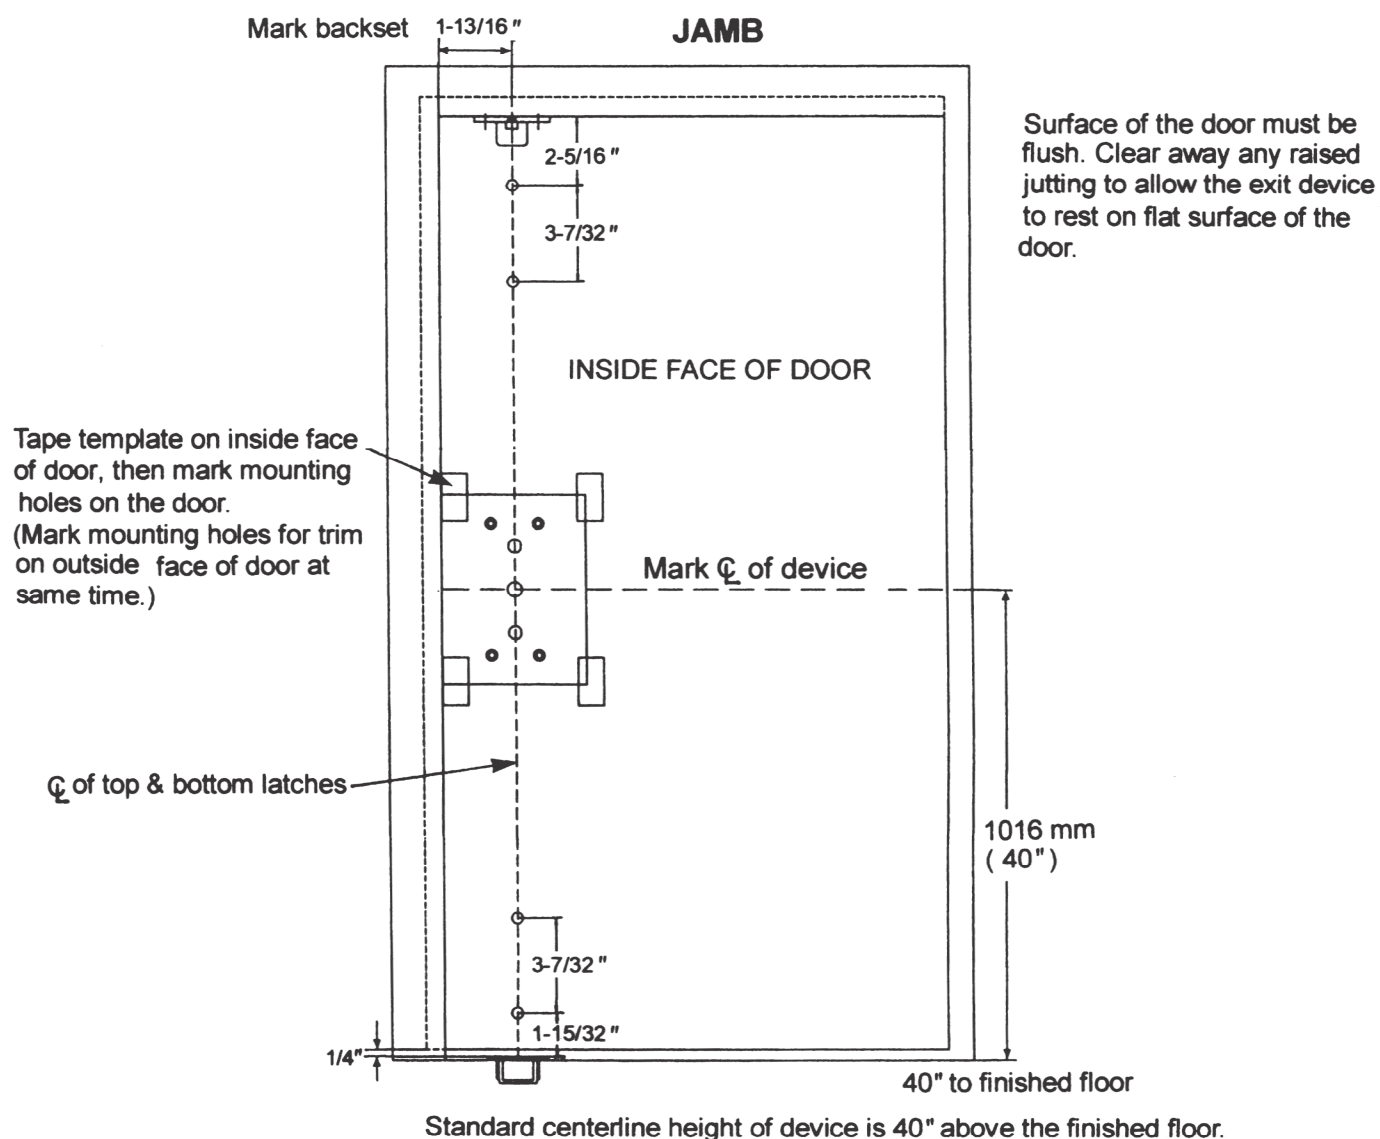

Figure 1
1. Mark position of holes on the door by templates. (See Fig. 1.)